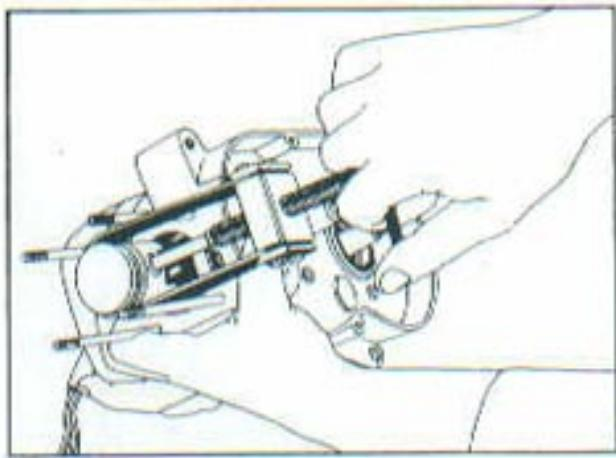

FIG. 6
4. Remove circlips securing the wrist pin and use the puller No. 50-12000-1.1 (Fig. 6) to drive out the wrist pin.